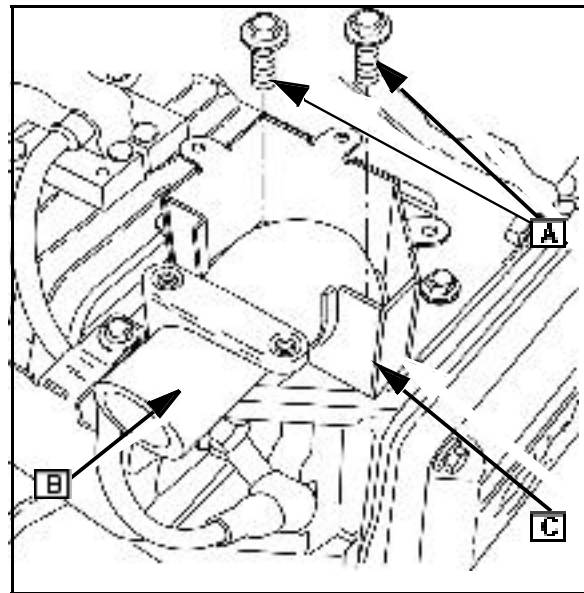

Fig. 24
7. Remove exhaust elbow mounting bolts ([A] Fig. 24).
8. Set exhaust manifold ([B] Fig. 24) aside.